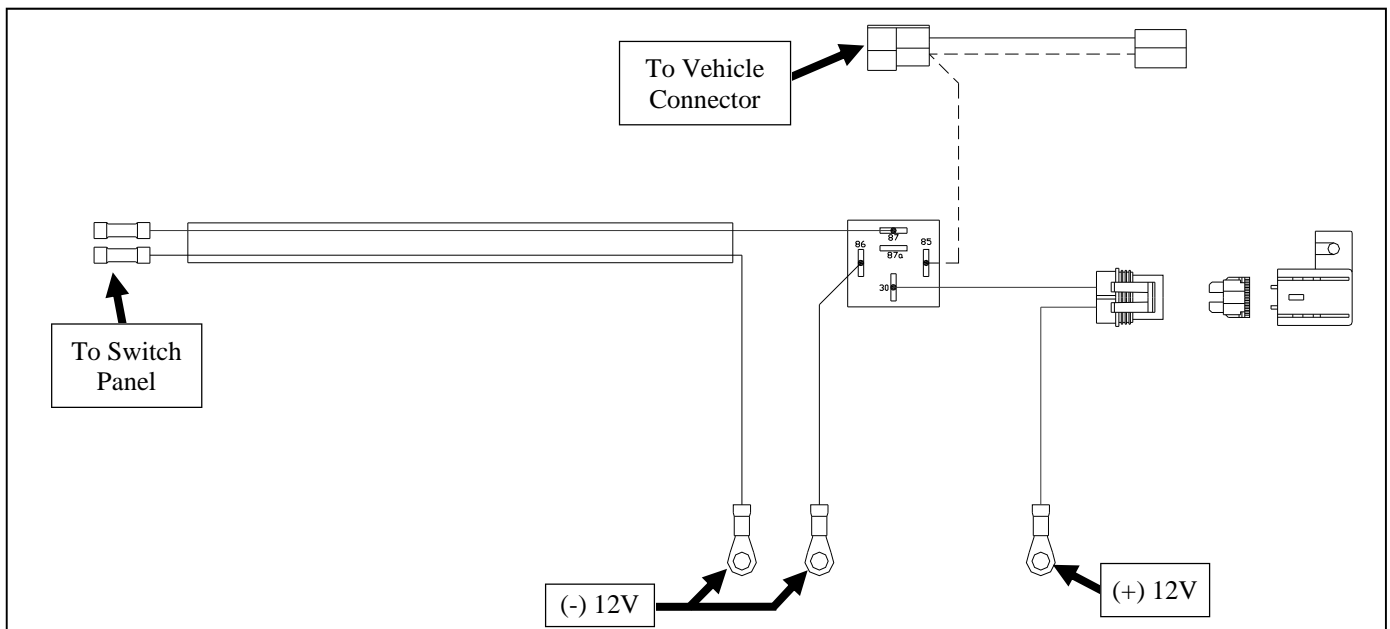

Figure 2.1 - Wire Connections (2 Passenger)
2 Passenger only: (Use Figure 2.1 as a reference)
2.2 Cut back the jacketing on the end of the wire coming from the switch panel and strip the ends of the two wires. Crimp the wires into the butt connectors at the end of the tie-in harness as shown in Figure 2.1. The wires should be connected white to red and black to black. Be sure the wires are routed under the seat base when crimped so they will not be pinched.